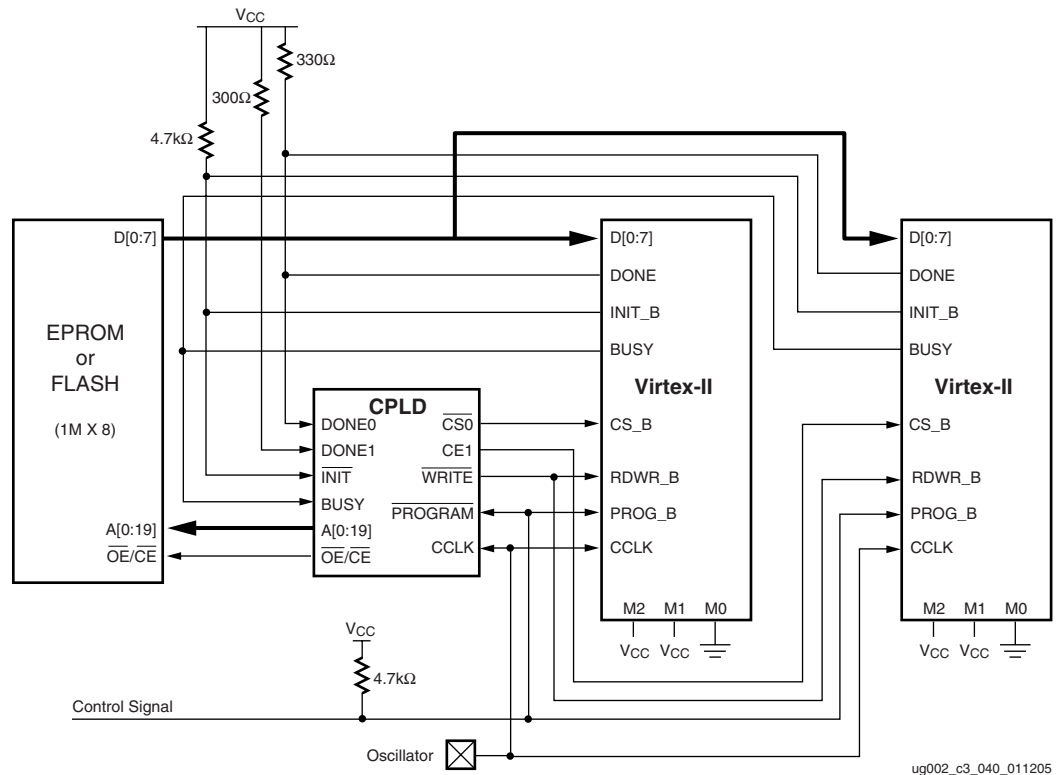

Figure 4-6: Configuring Virtex-II from Parallel EPROMs
- XAPP137:** *Configuring Virtex FPGAs From Parallel EPROMs With a CPLD* (available on www.xilinx.com) describes an architecture that configures one or more Virtex-II devices using the Slave SelectMAP mode. See **Figure 4-6** for an example of FPGA configuration using a CPLD and a parallel EPROM.